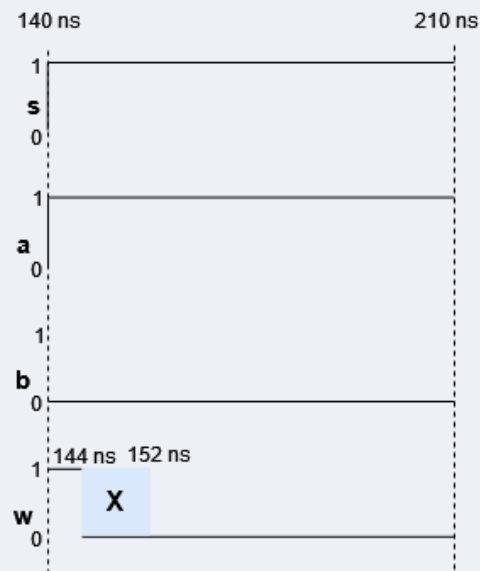

Figure 2.4
- **140 to 210 ns:** As the value of “s” changes to 1, T2 will propagate 0 in 4 ns, but the pMOS will propagate Z after 7 ns. Then, T3 will propagate Z in 5 ns and T4 will propagate 0 in 4 ns. So, the output won’t change in first 4 ns till T4 propagates 0, after that we’ll get a X-value on the output until T3 propagates Z, this time will be **12 ns** at all (7 ns for the T1 and 5 ns for the T3). Actually, this is the worst-case delay of output making To-0 transition. (fig. 2.4)